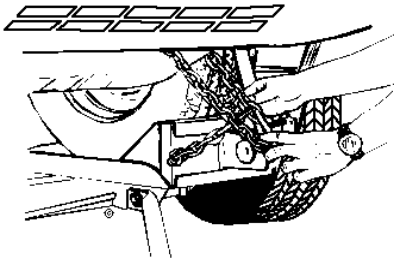

Figure 11
- ❑ Connect the two (2) vehicle security chains, found next to the ratchets, to the vehicle-in-tow frame or other structural member. (Figure 11) Keep the security chains away from brake and fuel lines and other items that may be damaged by the chain. **DO NOT** place the chain hook on the vehicle's frame member or other structural member. Loop the chain around the member and place the hook through the hole in one of the chain links. Leave several inches of slack in the security chain. Be sure the "S"-hook is secured with a rubber retainer.